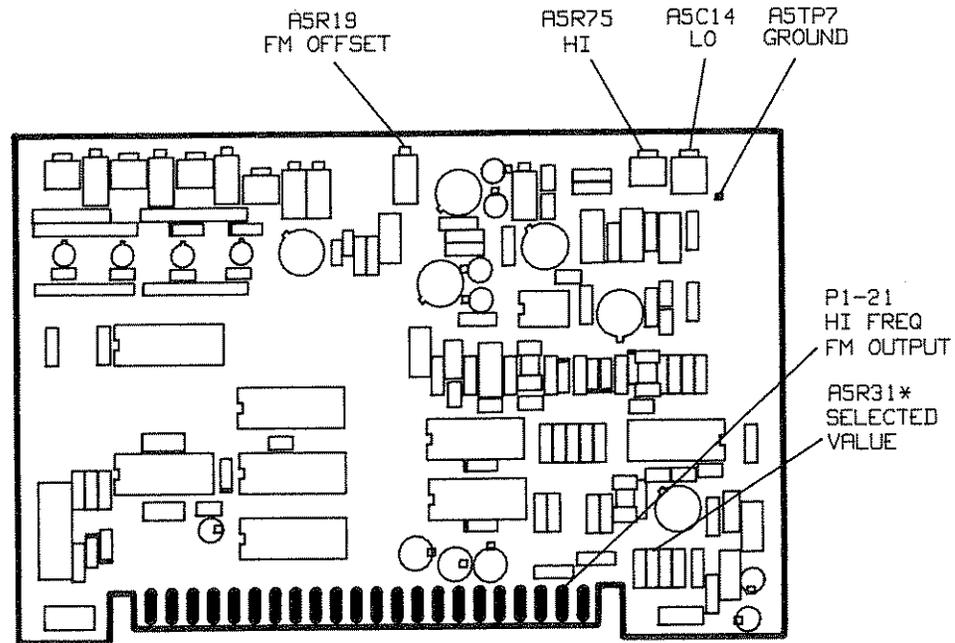

Figure 5-31. FM Driver Adjustment Location
3. Turn the HP 8350 AC power on and connect DVM HI to A5 board connector pin 21 and DVM LO to A5TP7 (Ground). Adjust A5R19 (FM OFFSET) for $0.00 \pm 0.0001V$. Refer to Figure 5-31.
12. Sweep the function generator frequency from 100 Hz to 100 kHz. Select resistor A5R31 (See Figure 5-31) so the amplitude at 100 Hz and at 100 kHz are the same ± 0.2 divisions on the screen.